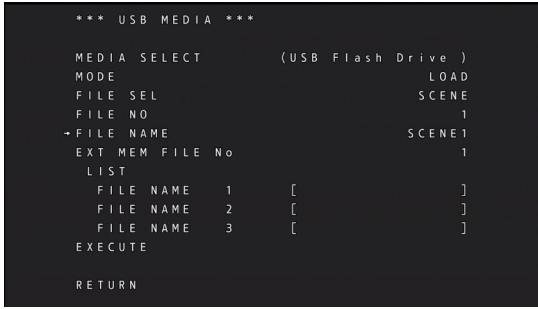
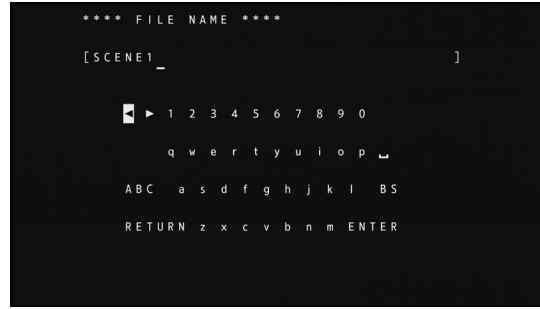

Fig. 1
Fig. 2
- 1** Press the <SELECT> dial button. (Fig. 1, Fig. 2)